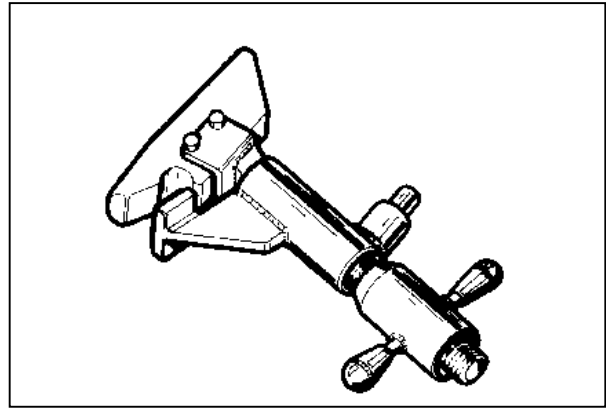

Fig.8
**#14021247 Cone flange (Fig.8)**